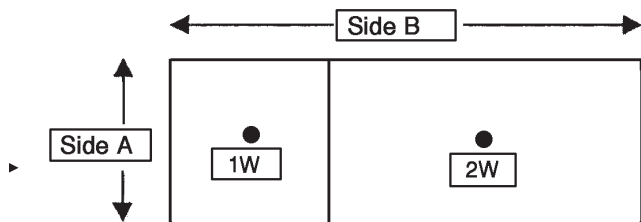

FIGURE 2
- Follow design table in Figure 2 to determine maximum module size for each nozzle
Referring to the table in Figure 2, if the "A" dimension is 8.0 in. (20 cm), the "B" dimension must not exceed 58.5 in. (149 cm). In this example, the "B" dimension is 55 in. (140 cm), therefore, this duct can be protected with a three flow application.